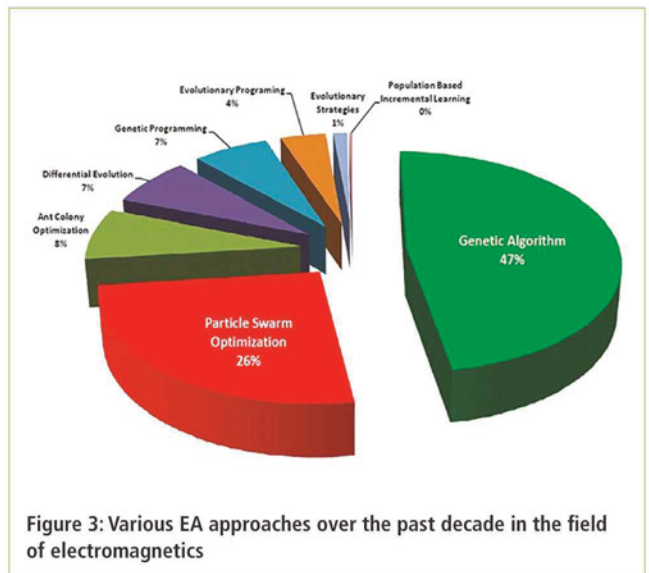

Figure 3: Various EA approaches over the past decade in the field of electromagnetics
From all EAs, the genetic algorithm (GA) and the particle swarm optimization (PSO) algorithm are the most robust and efficient in finding better results; see Figure 3.